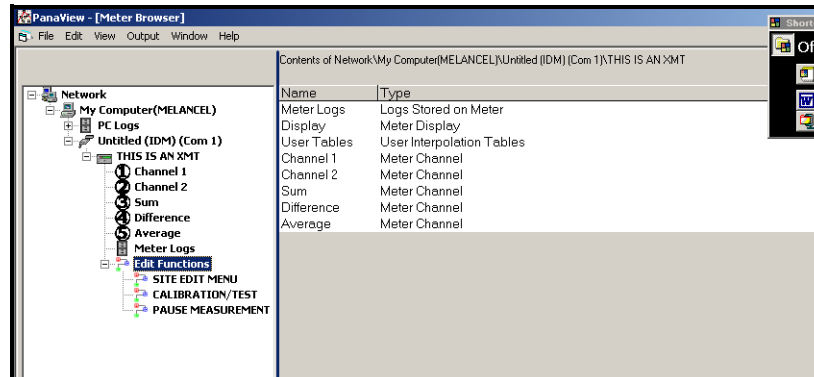

Figure 10: Menus in the *Edit Functions* Option
4. Expand the *Edit Functions* option. The window now appears similar to that shown in Figure 10.